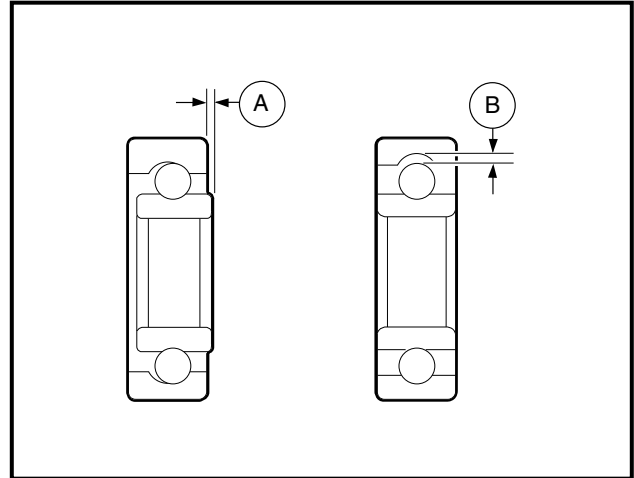

Figure 6-24 Inspect Bearings
2. Inspect all bearings by spinning them by hand. Check the bearings for excessive axial (A) and radial (B) play (**Figure 6-24, Page 6-13**). Replace bearings if they do not spin smoothly, if they are noisy, or if they have excessive play. Replace bearings if they are rusted, worn, cracked, pitted or discolored.